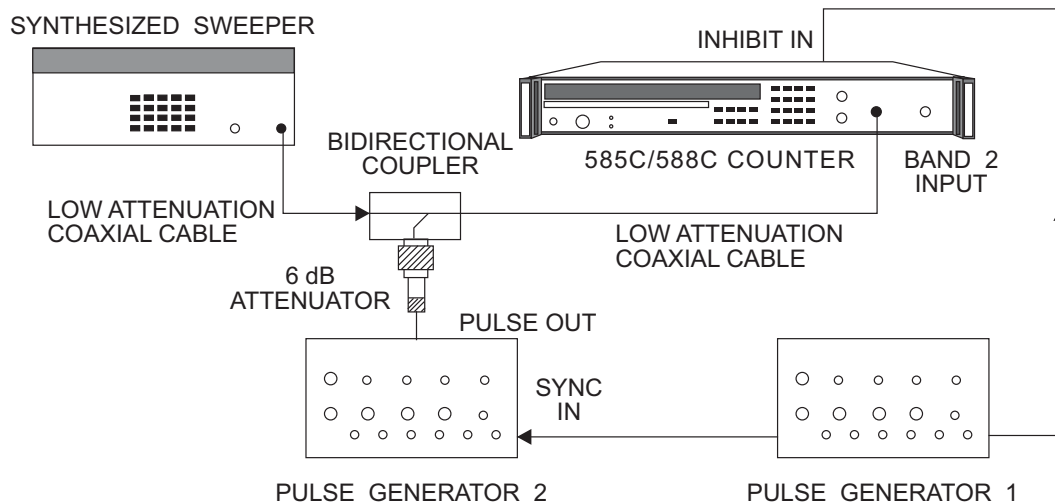

Figure 6-17. Band 2 Maximum Video Test Setup
1. Connect the equipment as shown in Figure 6-17, and turn the equipment on.